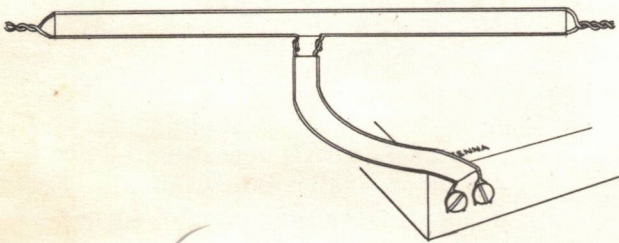

Figure 16
- 1  Connect the dipole antenna to the antenna terminals on the rear of the tuner. Connect one of the leads to the G terminal and the other to the 300 ohm terminal. (See Figure 16). After the antenna has been screwed on securely, spread the antenna out on the table to its full "T" shape, or tape it on the wall. Make sure that no bare part of the antenna wire touches the chassis of the tuner.